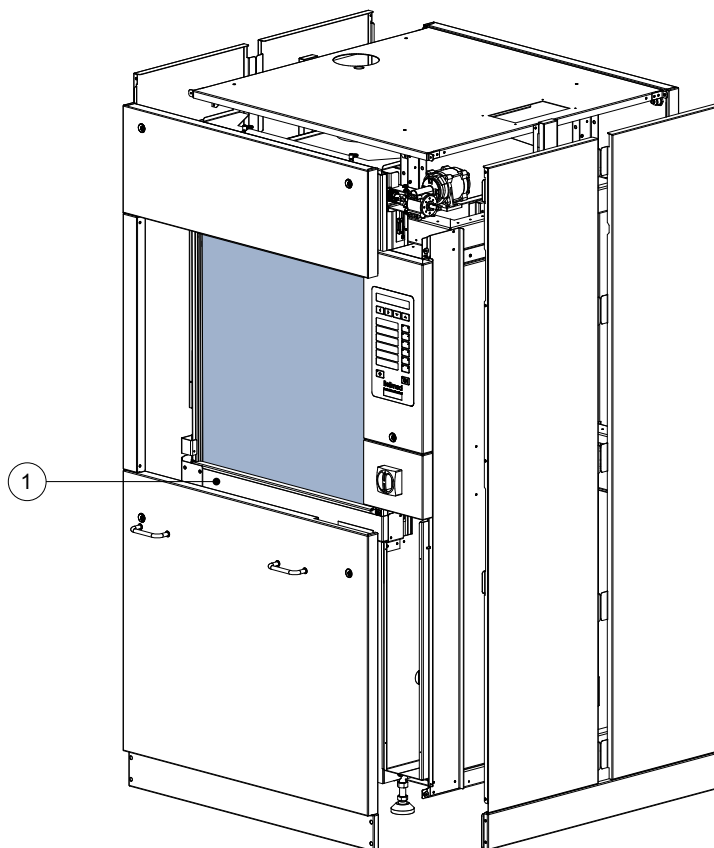

Fig 215
- ▶ Release door contact pressure using button  and remove panels (Fig. 215)
- ▶ Remove cross bar (Fig. 215 Pos.1)